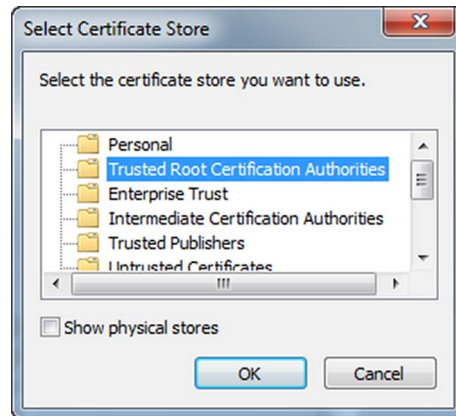

FIGURE 3-16
- g) Select the **Place all certificates in the following store** radio button. Click the **Browse...** button. The *Select Certificate Store* window is displayed (see FIGURE 3-16).